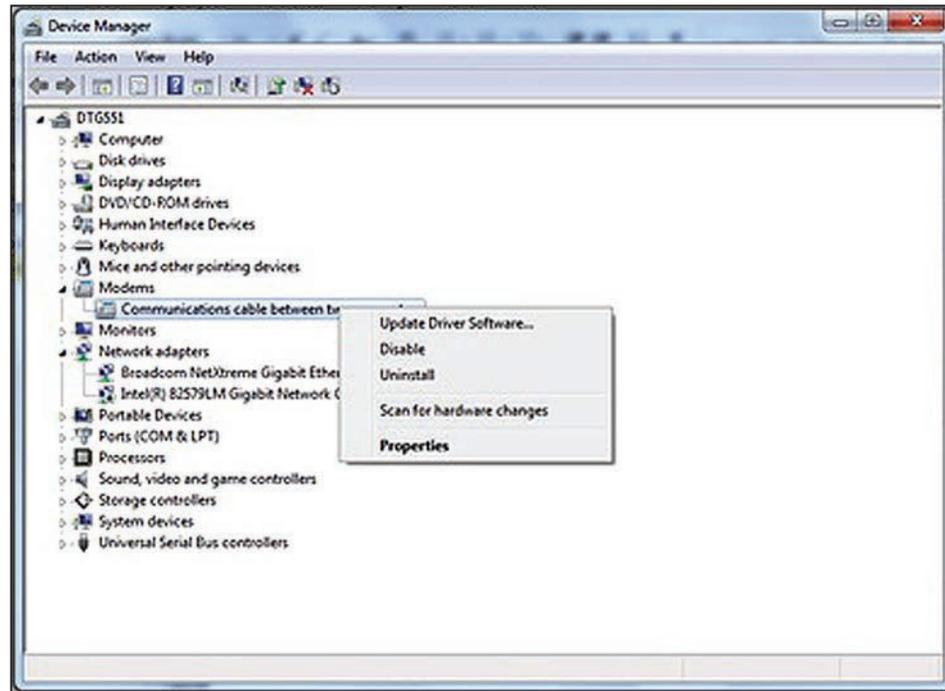

Figure 16. The Properties selection for communications cable between two computers.
STEP 2. Click on the “Properties” entry and select the **Advanced** tab in the communications cable between two computers Properties dialog box. See Figures 16 and 17.